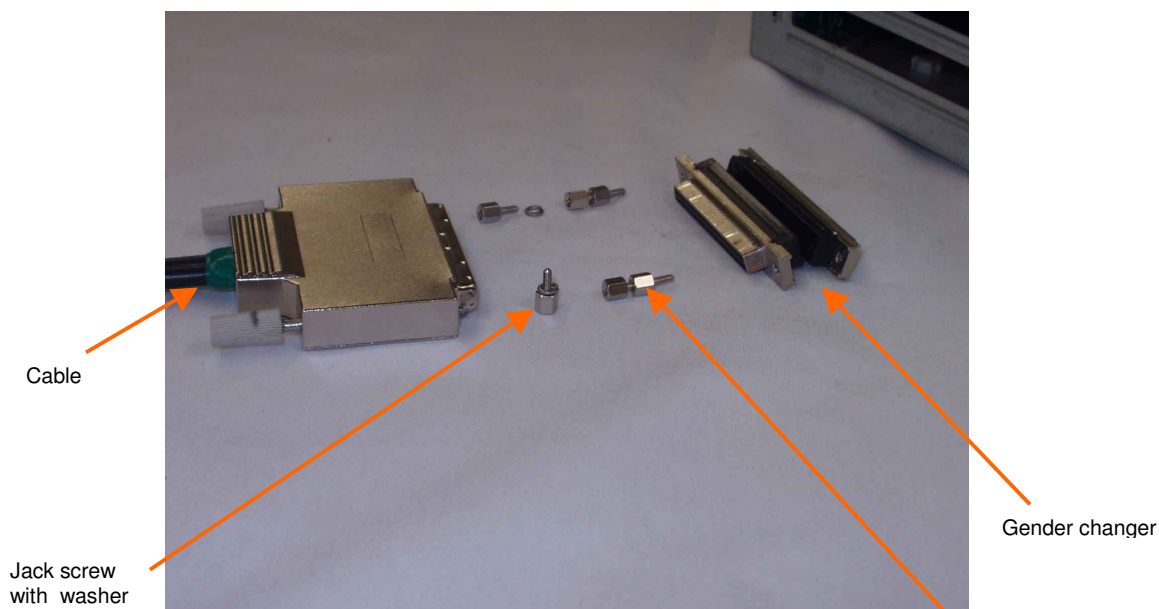

Figure 1
1. Check the contents of the cable components package (Fig. 1).